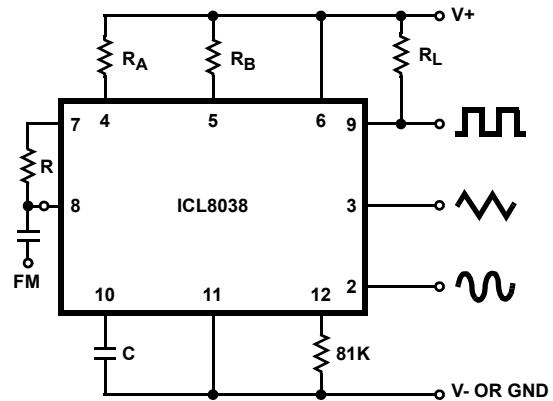

FIGURE 5A. CONNECTIONS FOR FREQUENCY MODULATION
- $V_{SUPPLY} = 20V$ ;  $R_A$  and  $R_B = 10k\Omega$ ,  $f \cong 10kHz$  nominal; can be extended 1000 to 1. See Figures 5A and 5B.
The frequency of the waveform generator is a direct function of the DC voltage at Terminal 8 (measured from V+). By altering this voltage, frequency modulation is performed. For small deviations (e.g. ±10%) the modulating signal can be applied directly to pin 8, merely providing DC decoupling with a capacitor as shown in Figure 5A. An external resistor between pins 7 and 8 is not necessary, but it can be used to increase input impedance from about 8kΩ (pins 7 and 8 connected together), to about (R + 8kΩ).